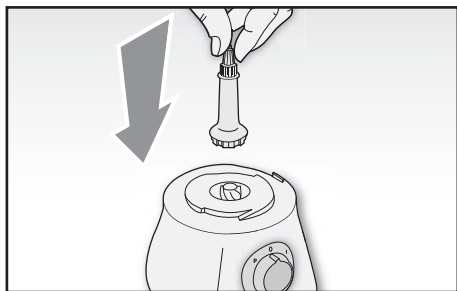

Fig. 2
- 1 Insert the drive shaft (C) into the dedicated housing on the motor body (B) (Fig 2).